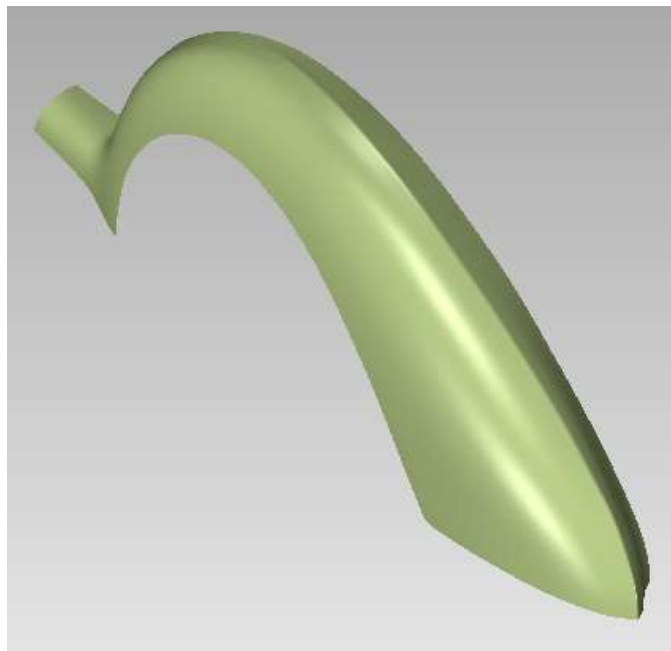

Figure 108 – NURBS Surfaces
*After a few moments, the object in the display will update to an **Olive** color, the object now has a **NURBS surface** applied to it, see **Figure 108**.*